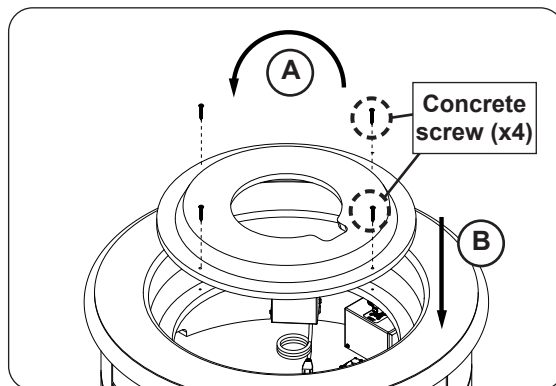

Fig. 26-3 Flip and install refractory panel
2. Flip the refractory panel and align the pilot holes. Re-install the 4 concrete screws (see Fig. 26-3).